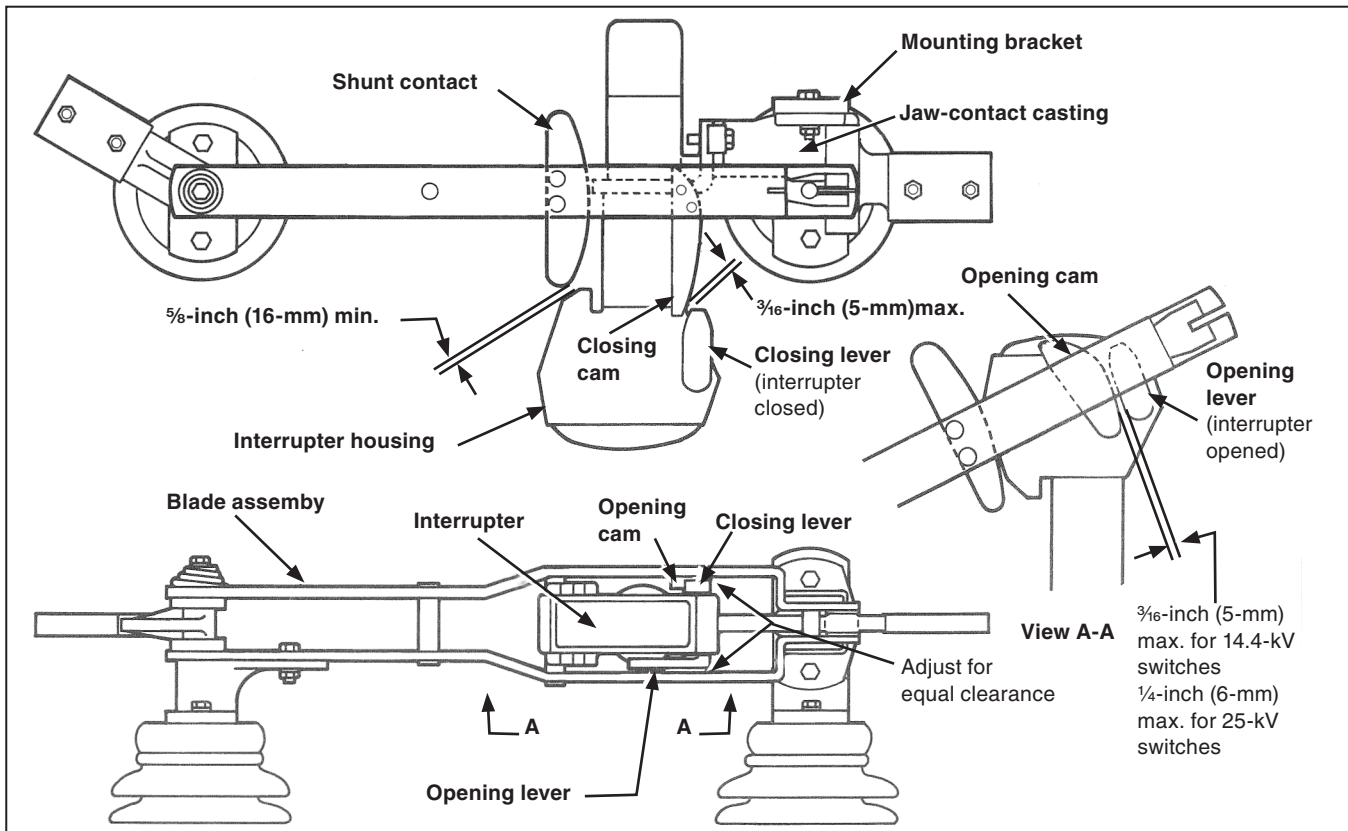

Figure 22. Operating checkpoints.
- The interrupter must lie in a plane parallel to the sweep of the blades, and the blades must pass over the interrupter with approximately equal clearance on both sides as shown in Figure 22.
- As the blade moves in the *closing* direction, clearance between the blade-opening cam and the interrupter-opening lever must be within the limit shown in Figure 22, View A-A.
- In the fully **Closed** position, clearance between the blade-closing cam and the interrupter-closing lever must be within the limit shown in Figure 22. Also, the clearance between the blade shunt contact and the interrupter housing must be as shown in Figure 22.